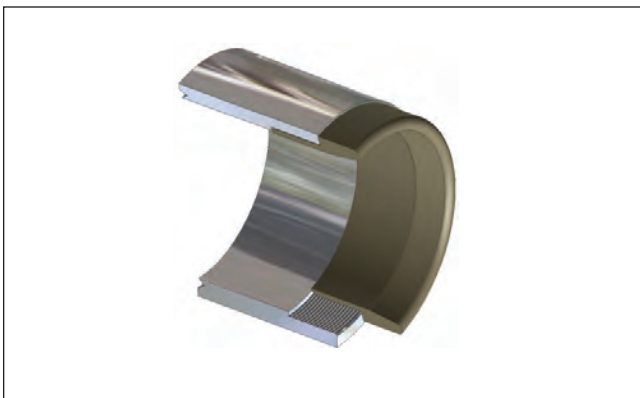

Figure 2-15. Thread protection installation tool cutaway view
2. Nick and Cut Protection. Threads, sharp corners and burrs can damage the seal. Care should be taken to avoid contact with these surfaces. Burrs must be removed, sharp corners should be blunted or radiused, and threads should be masked or shielded with special insertion tooling (see Figure 2-15). Although it is good practice to take extra care in the handling and manipulation of the seal, this is seldom sufficient and it usually requires either a safety tool or masking to protect the seal against such damage.